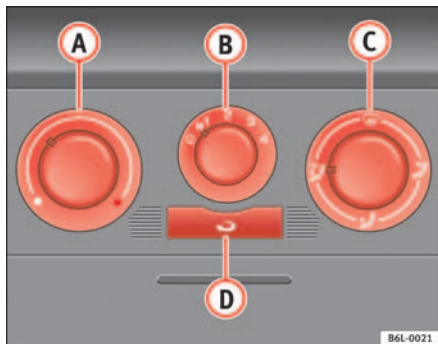

Fig. 87 On the dash panel: Heater controls
- Turn the temperature selector ⇒ fig. 87 ① anti-clockwise.
- Turn blower switch ⑦ to speed settings 1-4.
- Set the airflow to the desired direction using air distribution control ③.
- Turn the temperature selector ⇒ fig. 87 ① clockwise to select the required temperature.
- Turn the temperature selector ⇒ fig. 87 ① clockwise to the maximum temperature.
- Turn the blower switch ⑦ to setting 4.
- Set air distribution to ④.
- Close outlet ③.
- Open and turn outlet ④ towards side windows.
- Turn the temperature selector ⇒ fig. 87 ① to the heating zone.
- Turn blower switch ⑦ to speed settings 2-3.
- Close outlets ③.
- Open and turn outlets ④ towards side windows.